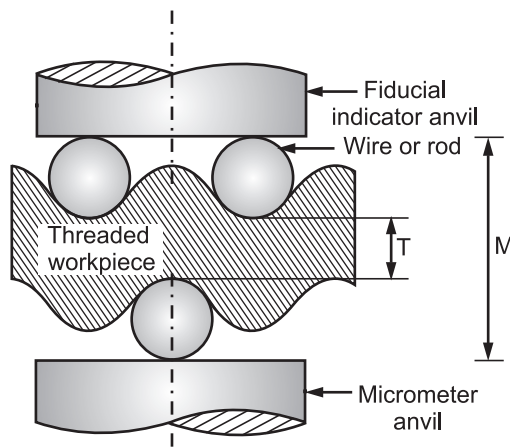

Fig. 5.10: Measurement of effective diameter using three wire method
- Refer the figure 5.10, where OB is perpendicular to the flank of thread, and it is equal to radius of wire used. If 2θ is threaded angle, then $\angle OGB = \frac{2\theta}{2} = \theta$.